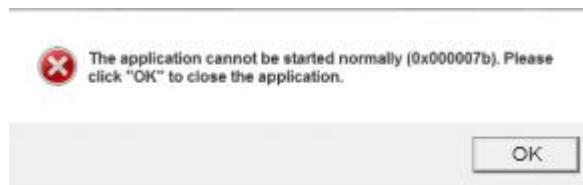

Figure 2-8
2. Error 2 may appear when you double-click the shortcut to run the program, prompting that “the application cannot start normally (0xc000007b)”, as shown in Figure 2-8.